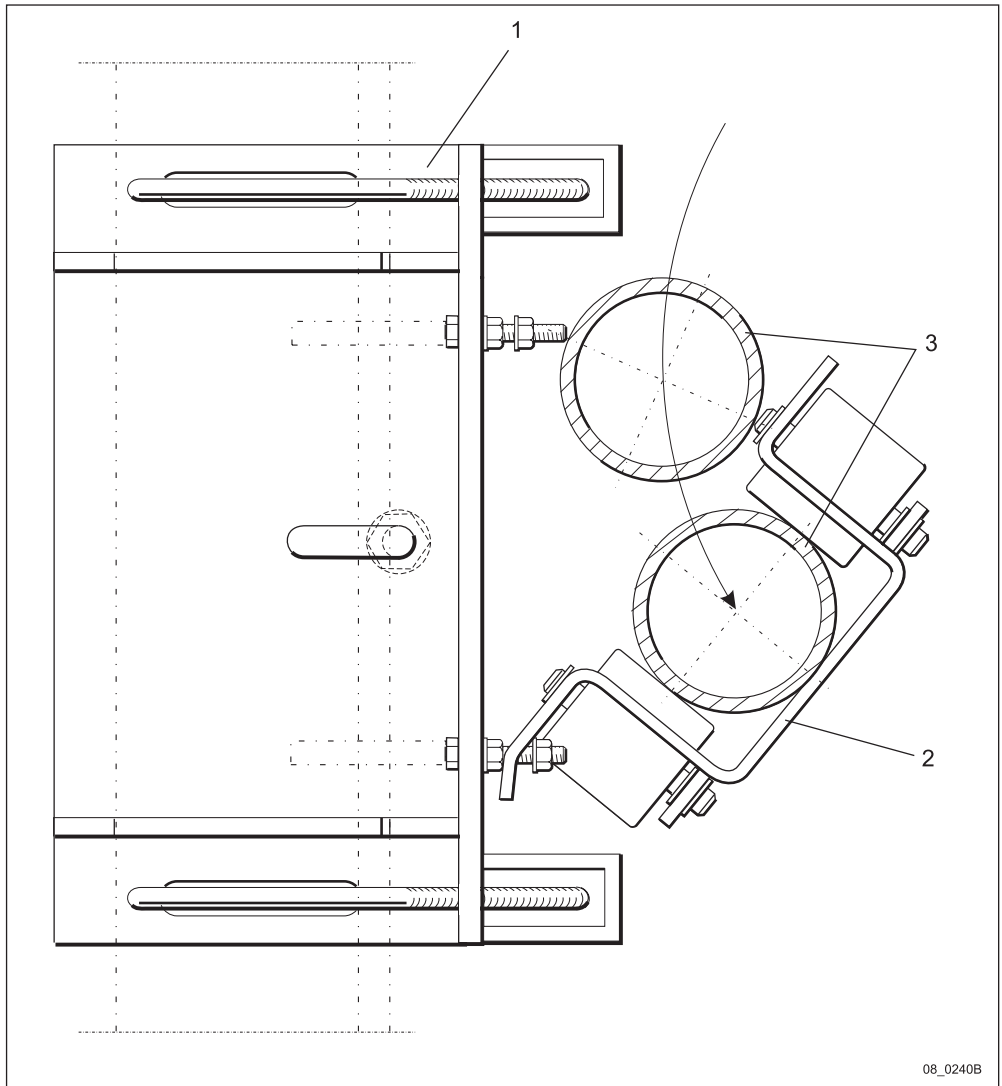

Figure 8 Insertion of antenna boom, pos 3 in the rolling holders, pos 2
2. Lift the boom into position between the rollers of the roller holder as shown in figure 8.